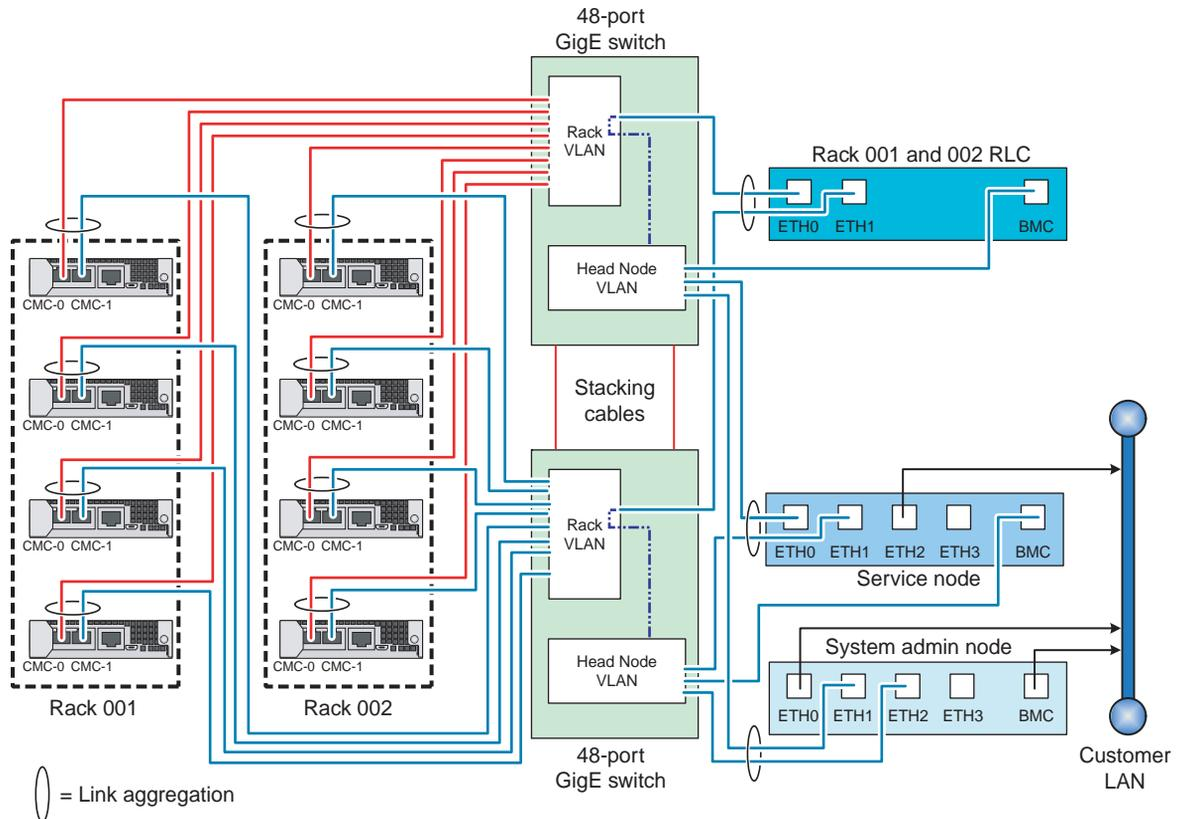
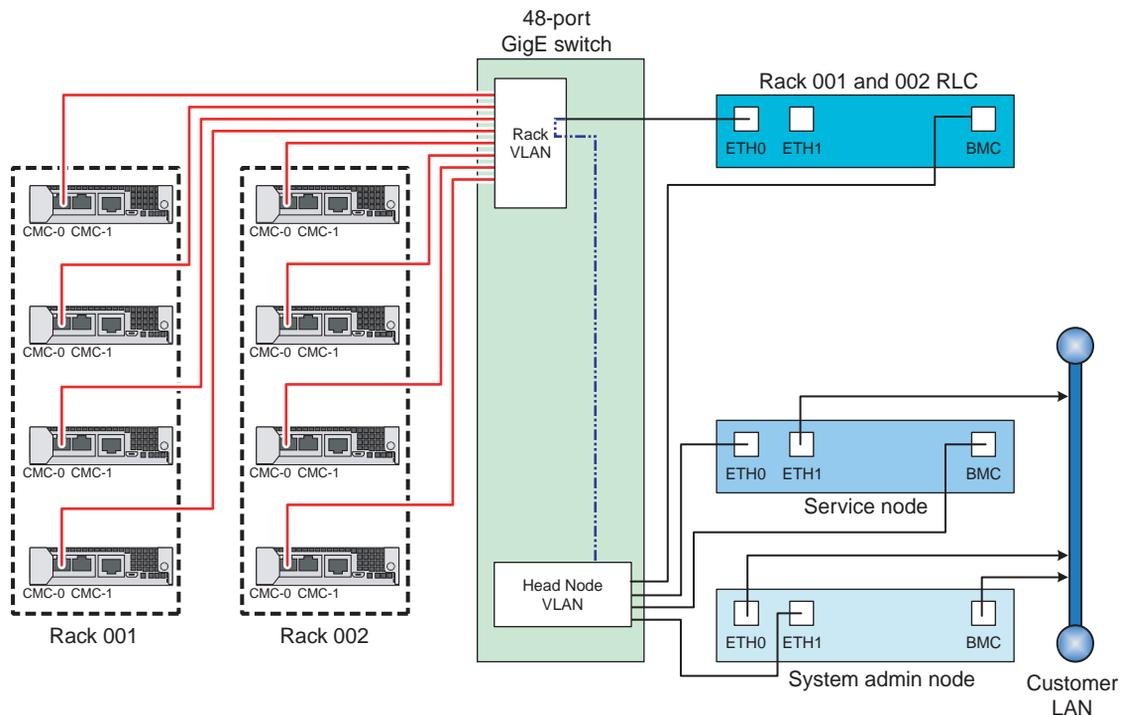

Figure 2-2 Redundant Chassis Manager Interconnect Diagram Example
Figure 2-3 Non-redundant Chassis Manager Interconnection Diagram Example
- All blade enclosures within a system are polled for and provide information to the administrative node and RLC through their chassis management controllers (CMCs). Note that the CMCs are enlarged for clarity in Figure 2-3.
The chassis managers in each blade enclosure connect to the system administration, rack leader and service node servers via gigabit Ethernet switches. See the redundant switch example in Figure 2-2 and the non-redundant example in Figure 2-3 on page 17.
Note that the non-redundant example (shown in Figure 2-3 on page 17) is a non-standard chassis management configuration with only a single virtual local area network (VLAN) connect line from each CMC to the internal LAN switch. See also “Multiple Chassis Manager Connections” in Chapter 3.